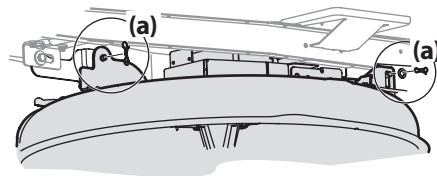

Figure 4-8
5. Remove the remaining bow-tie cotter pins (a) securing the deck to the tractor, as shown in Figure 4-8.
5. Secure the deck to the deck lift arms using two bow-tie cotter pins. See Figure 4-8.